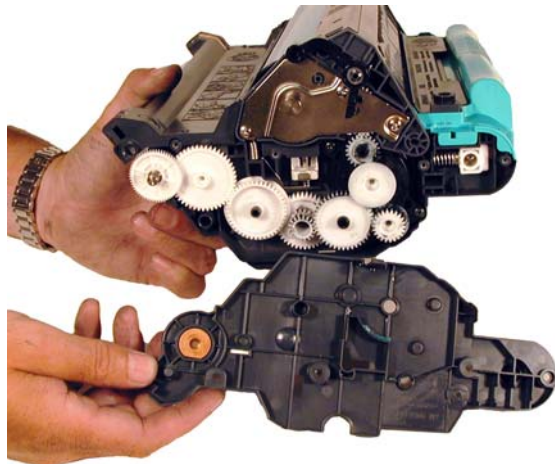

Figure 63
51) Install the gear side end cap and 4 screws. Make sure the copper contact hub is aligned properly. See **Figures 63 & 64**